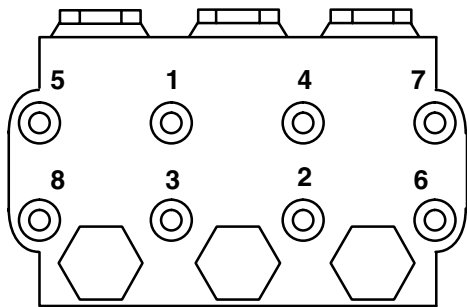

Figure 4
8. Install capscrews and washers finger-tight. Torque screws to 8.8 ft-lb (12 N•m). Follow tightening pattern in Fig. 4.